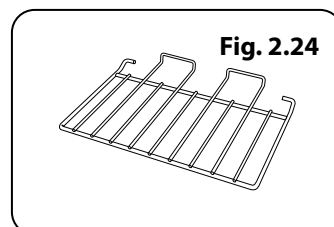

Fig. 2.24
- Three energy saving shelves (**Fig. 2.24**)